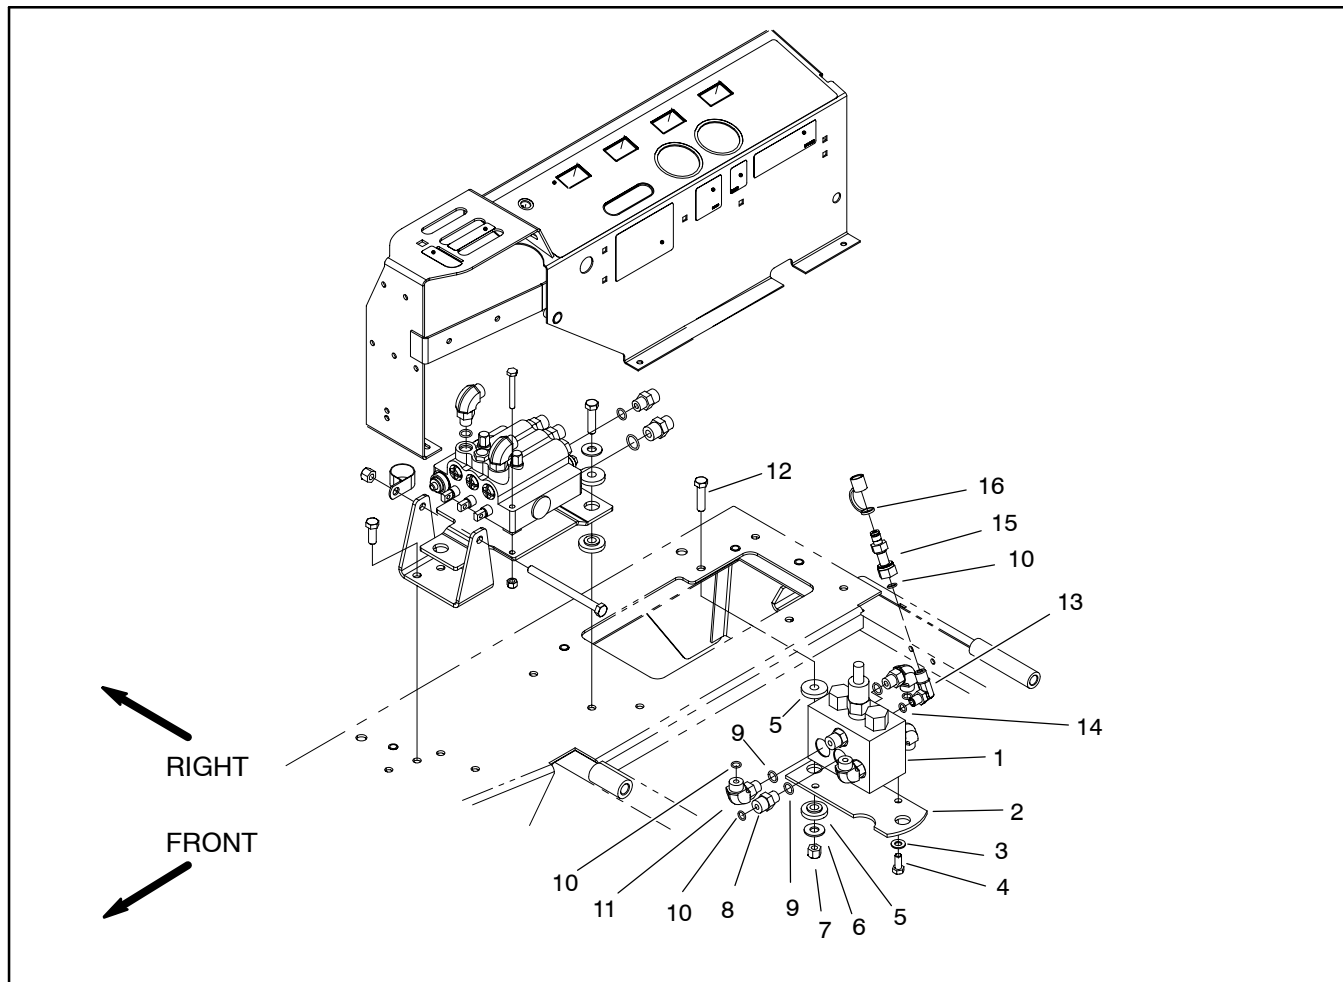

Figure 54
3. Remove hydraulic manifold from the frame using Figure 54 as guide.
1. Install hydraulic manifold to the frame using Figure 54 as guide.